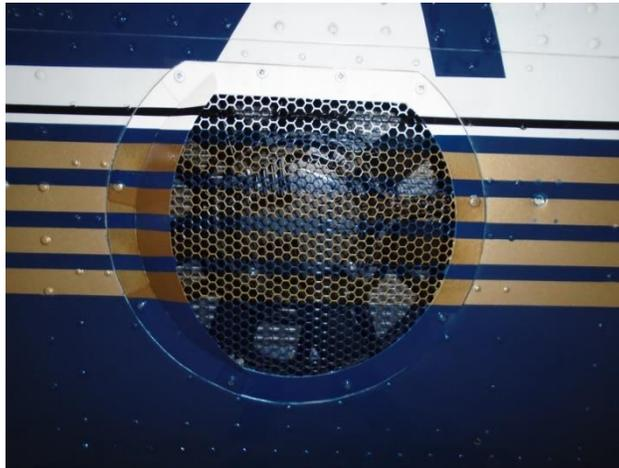

Figure 15 – Outlet Screen Assembly
- 3) Figure 15 shows the installation of the Outlet Screen Assembly.